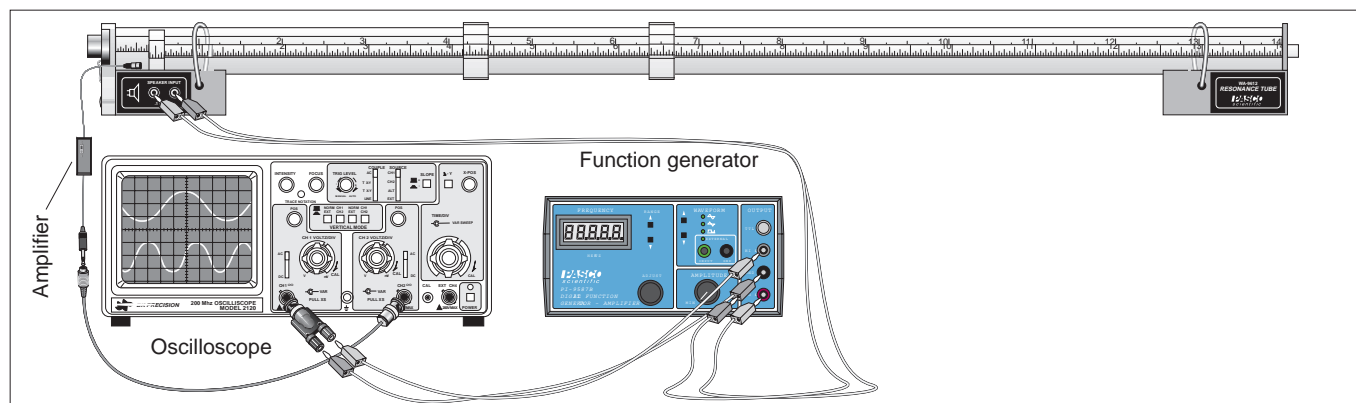

Figure 1.1 Equipment Setup
- ① Set up the Resonance Tube, oscilloscope, and function generator as shown in Figure 1.1. Turn on the oscilloscope. Set the oscilloscope sweep speed to approximately 5 ms/div and the gain on channel one to approximately 5 mV/div. Turn on the amplifier and the function generator. Set the output frequency of the function generator to approximately 100 Hz. Adjust the amplitude of the function generator until you can distinctly hear the sound from the speaker. If you use the oscilloscope, trigger on the speaker output.